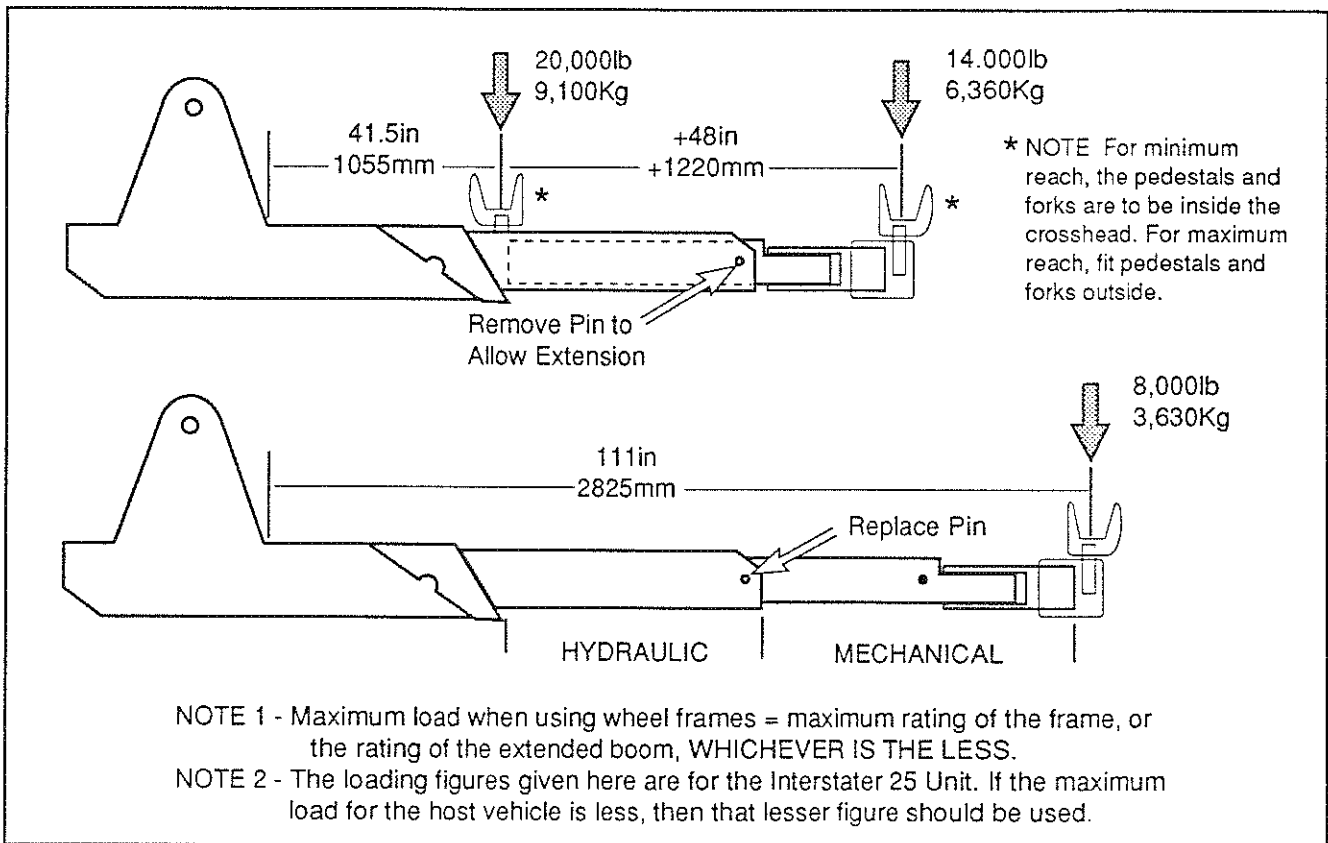

Figure 6- Performance Figures for the Type C Extending Boom
3. This recovery unit has been designed for use in all normal vehicle recovery situations, i.e. winch hauling, lifting, suspend towing and flat towing. The load limits on these aspects are given on Pages 8 and 9 (Figure 6, 7 & 8).
- 2.1.13      Using the Boom Extend Push Switch, operate the extendible boom and check for leaks. Ensure that the extension is that specified in Figure 6 or 7 of this book.